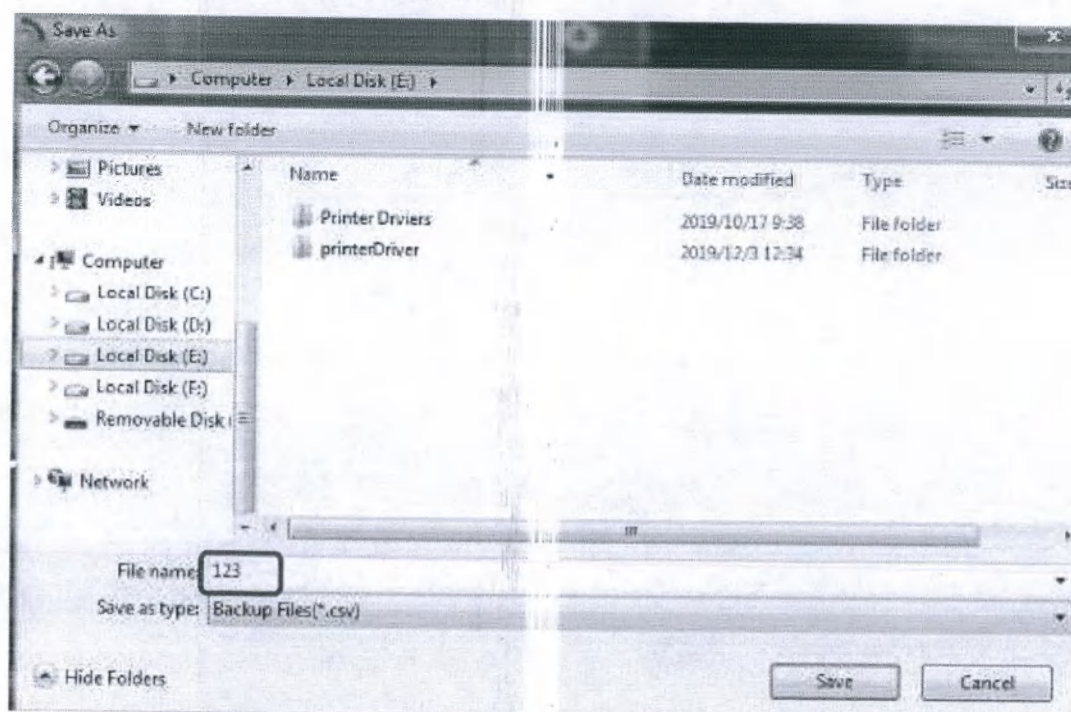

Fig. 6-16 Export file name
- Specify the name of the exported file as shown in Figure 6-16. The exported data is text in CSV format, which can be saved to a local drive, an external USB drive, or an external mobile hard drive.